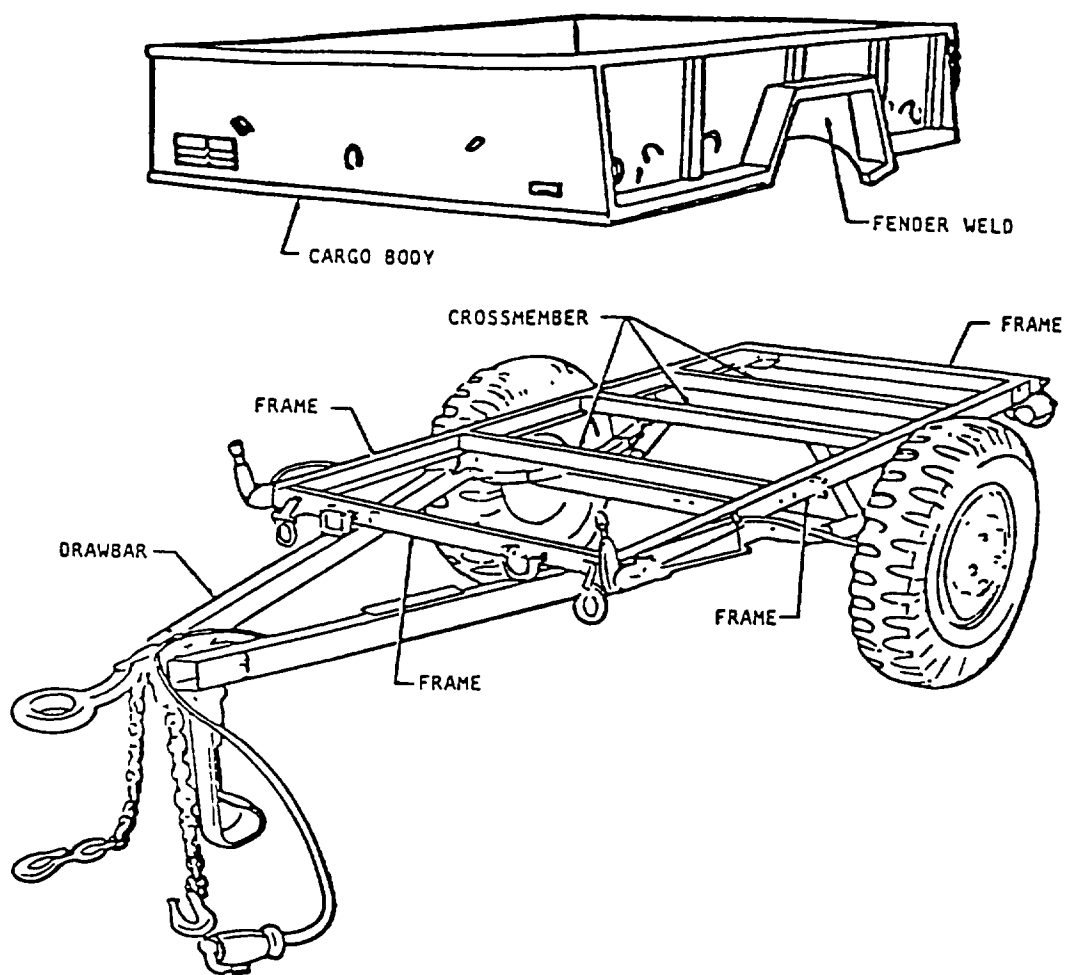

FIGURE 9. Trailer areas to be rustproofed.
- x Trailers, including frame, crossmembers, stake, pockets, and underbody (see figures 9, 10)